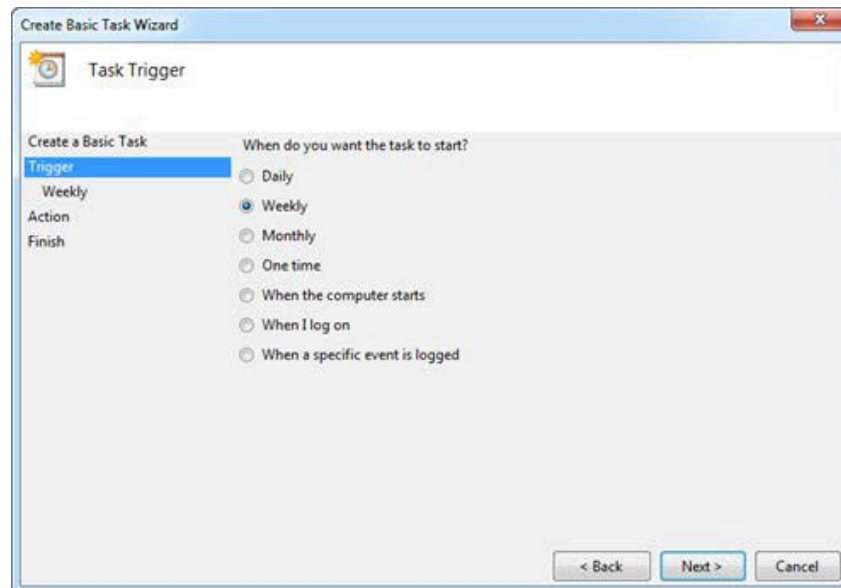

Figure 68. Task Trigger
- 5 Select one of the radio buttons to indicate the desired frequency of the backup and click the **Next** button. See Figure 68.